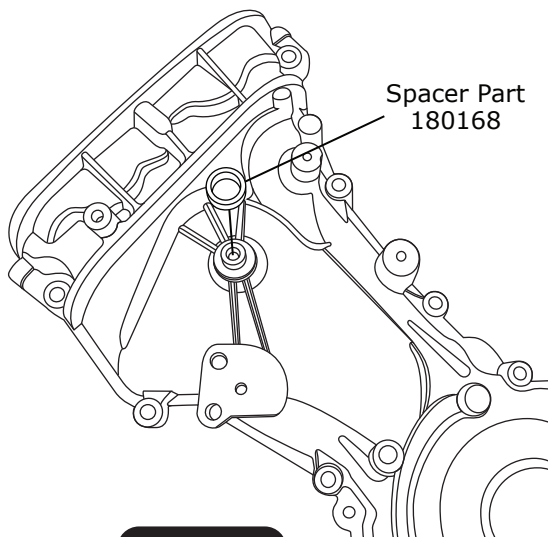

Figure 4
1. As of this writing, three different timing cover configurations have been identified. They differ at the cast boss shown in Figure 4, below. One is left unmachined at the factory and will only need to be drilled and tapped. The second design has been machined with a step and M8 threads. On this design, the M8 threads will need to be drilled out and tapped to 10mm x 1.5, and the spacer (180168) installed over the machined boss. The third design is similar to the second, with the addition of stiffening ribs. These ribs will interfere with the idler pulley and must be carefully cut down to achieve adequate clearance (1/16").